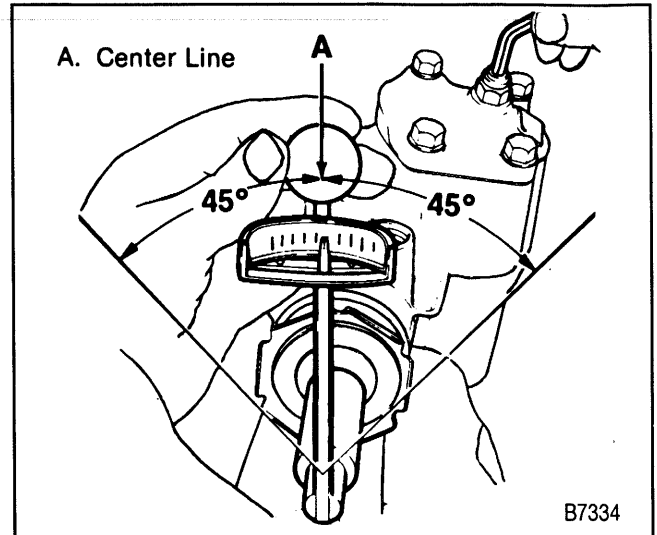

Figure 12—Checking Over-Center Rotational Torque
4. Place the torque wrench, in the vertical position, on the stub shaft. Rotate the torque wrench 45 degrees each side of the center and record the highest drag torque measured on or near center (figure 12).